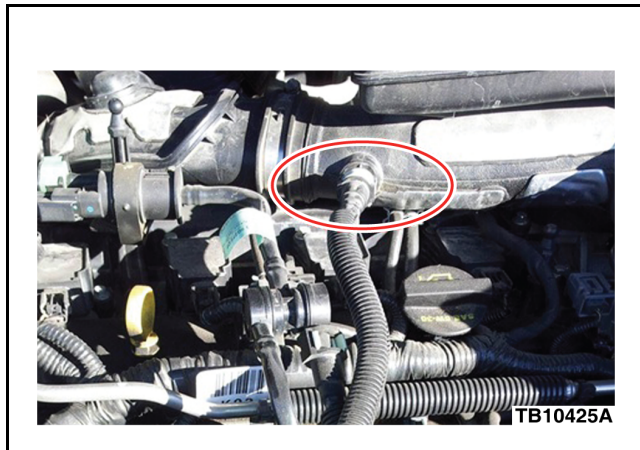

Figure 1 - Article 13-5-29
2. Disconnect evaporative emission fuel vapor tube quick connect coupling from the air intake duct center section. Refer to WSM, Section 303-13. (Figure 1)